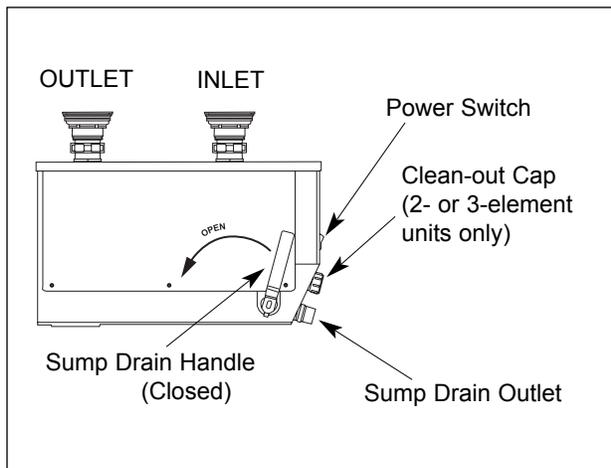

Figure 8. Hydro-Heater Side View
### DAILY (See Figure 8)
8. Close sump drain by moving handle all of the way forward **until it stops**. See Figure 8.
## WEEKLY (See Figure 8)